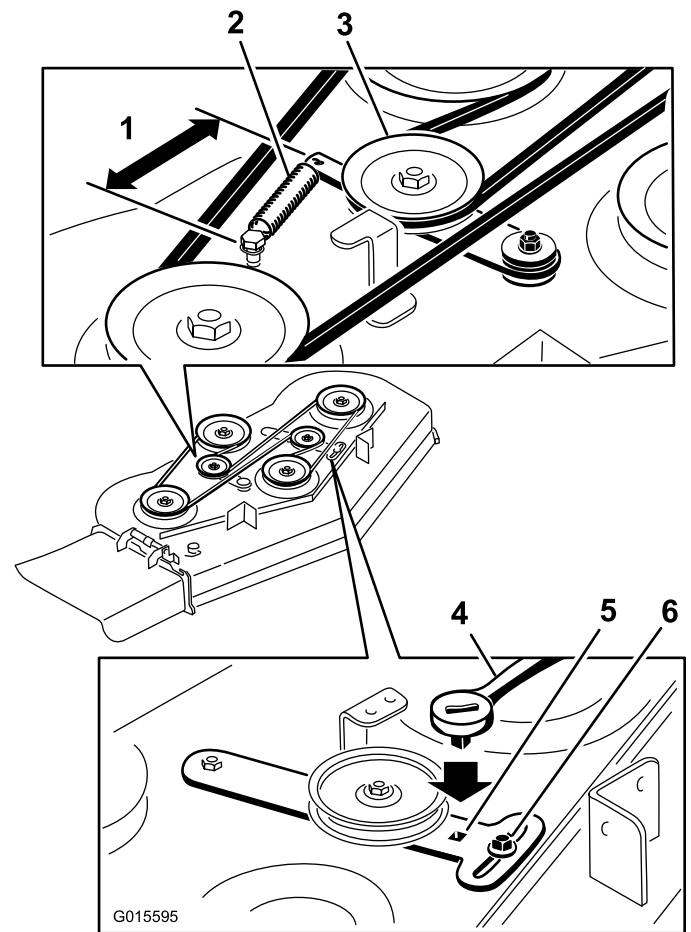
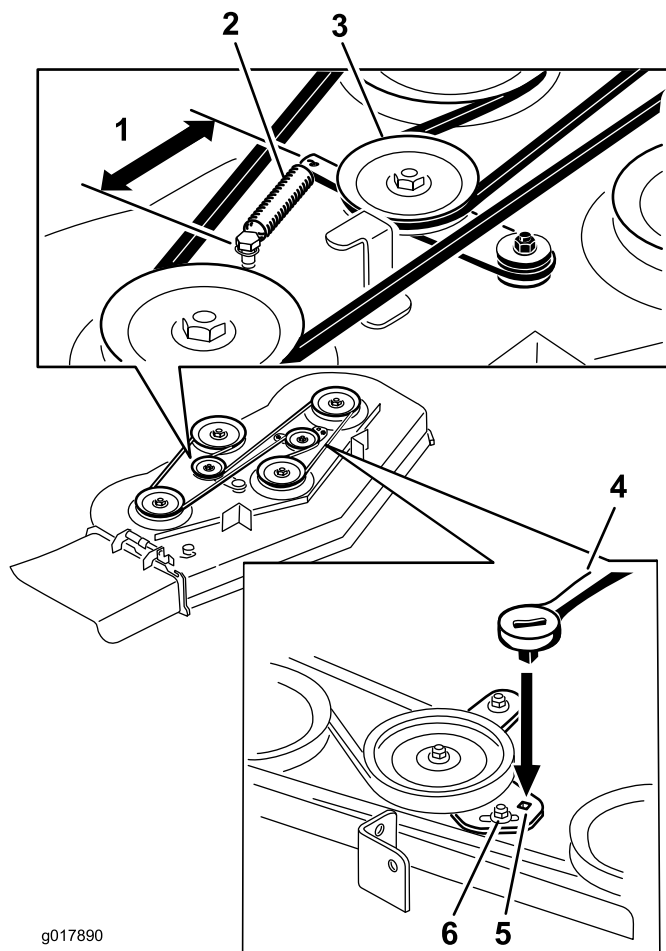

Figure 74
Figure 75
4. Loosen the front idler pulley by loosening the nut (Figure 74 and Figure 75).
5. Remove the worn mower belt (Figure 74 and Figure 75).
6. Install the new mower belt around the deck pulleys and clutch pulley (Figure 74 and Figure 75).
7. Using a ratchet in the idler arm, tighten the idler pulley until the spring is stretched 16.5 cm (6.5 inches) from hook to hook (Figure 74 and Figure 75).
8. Tighten the front idler pulley by tightening the nut (Figure 74 and Figure 75).